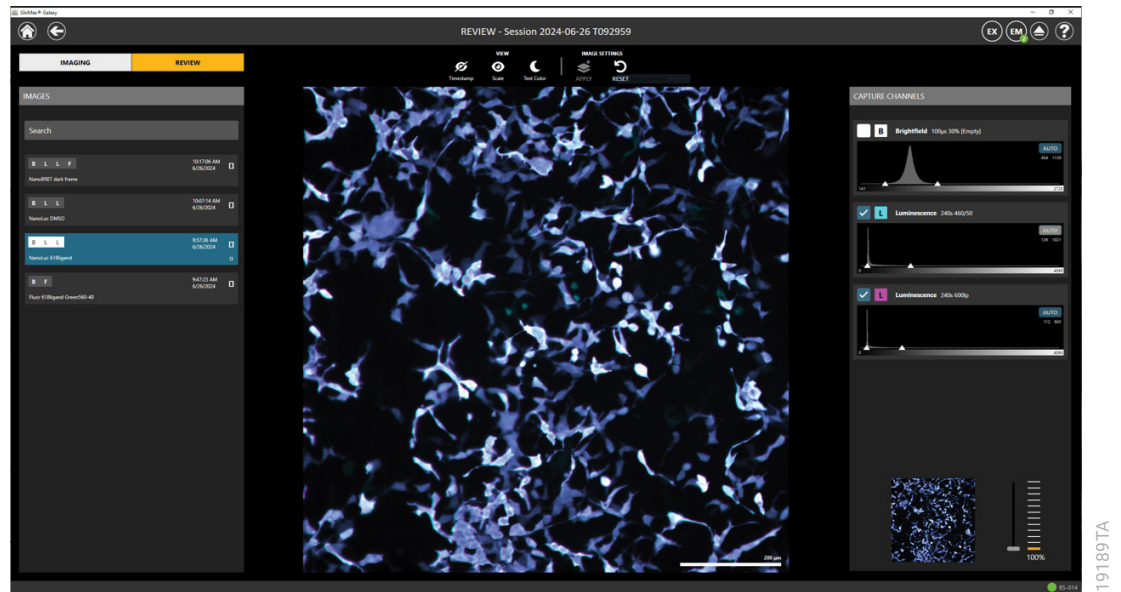

Figure 31. Image session 'Review' screen. The 'Review' screen provides functions to view, adjust and overlay captured images.
The 'Review' tab can be selected during an imaging session to review captured images (Figure 31).
- The capture channels for the selected capture (highlighted blue in Figure 31) will be listed on the right panel and may be individually viewed, assigned color and adjusted. Changes may be reverted using the Reset button, which resets all changes made during the review.